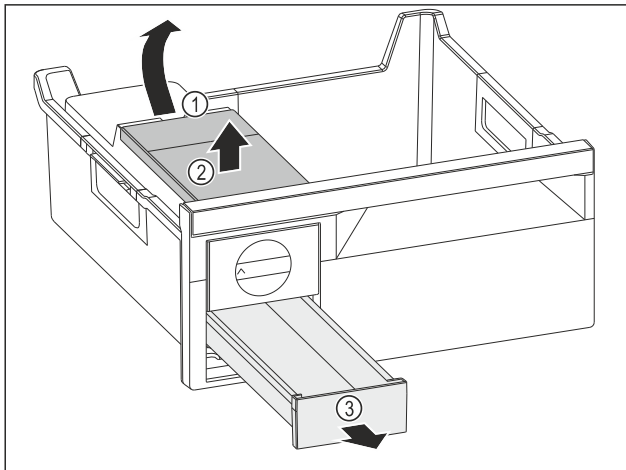

Fig. 119
- ▶ Removing the water tank: Lift the water tank by the recess Fig. 119 (1).
- ▶ Remove the water tank Fig. 119 (2) upwards.
- ▶ Remove the ice cube drawer Fig. 119 (3) to the front.